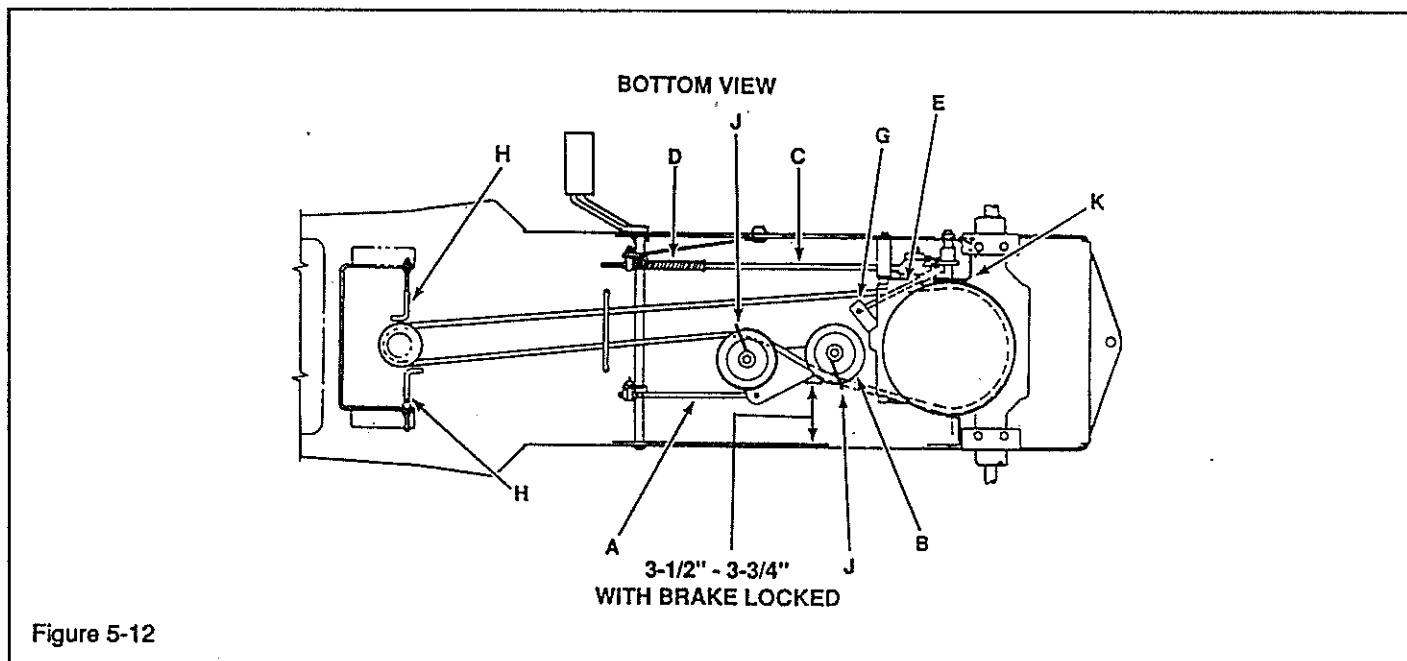

Figure 5-12
- To reach this travel, adjust nuts (B).
- With rod (C) of brake removed, total travel of brake arm from side to side should not be more than $7/8"$ (22 mm).
- With brake lock engaged, adjust clutch rod (A, Figure 5-12), provide a clearance of $3-1/2"$ to $3-3/4"$ between idler (B) and inside of side frame.
- With brake disengaged, adjust brake rod (C) so that arm on transmission is vertical. Brake spring (D) should be compressed to approximately 5" long.
- With shift lever (G) in the neutral detent, adjust shift rod (E) until the transmission reaches neutral position.